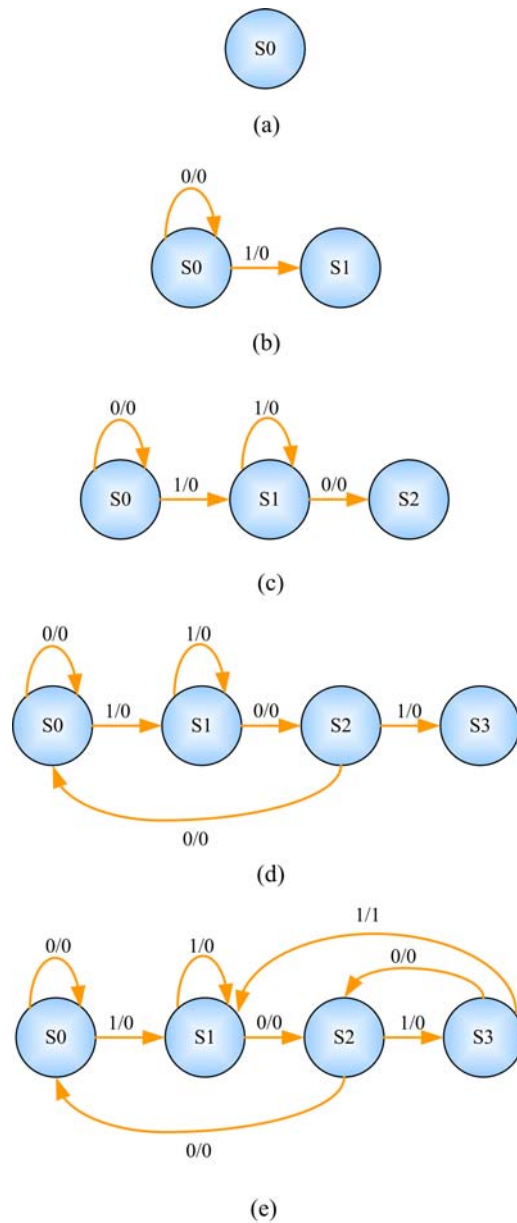

Figure 2: Deriving the State Diagram of the Sequence Recognizer
- Let us begin with an initial state (since a state machine must have at least one state) and denote it with ‘**S0**’ as shown in Figure 2 (a).
- Two arcs leave state ‘**S0**’ depending on the input (being a 0 or a 1). If the input is a 0, then we return back to the same state. If the input is a 1, then we have to remember it (recall that we are trying to detect a sequence of 1011). We remember that the last input was a one by changing the state of the machine to a new state, say ‘**S1**’. This is illustrated in Figure 2 (b).
- Again in state ‘**S1**’, we have two outgoing arcs. If the input is a 1, then we return to the same state and if the input is a 0, then we have to remember it (second number in the sequence). We can do so by transiting to a new state, say ‘**S2**’. This is illustrated in Figure 2 (c).
- State ‘**S2**’ represents detection of ‘10’ as the last two bits of the sequence. If now the input is a ‘1’, we have detected the third bit in our sequence and need to remember it. We remember it by transiting to a new state, say ‘**S3**’ as shown in Figure 2 (d). If the input is ‘0’ in state ‘**S2**’ then it breaks the sequence and we need to start all over again. This is achieved by transiting to initial state ‘**S0**’. The outputs are still 0.
- In state ‘**S3**’, we have detected input sequence ‘101’. Another input 1 completes our detection sequence as shown in Figure 2 (e). This is signaled by an output 1. However we transit to state ‘**S1**’ instead of ‘**S0**’ since this input 1 can be counted as first 1 of a new sequence. Application of input 0 to state ‘**S3**’ means an input sequence of 1010. This implies the last two bits in the sequence were 10 and we transit to a state that remembers this input sequence, i.e. state ‘**S2**’. Output remains as zero.